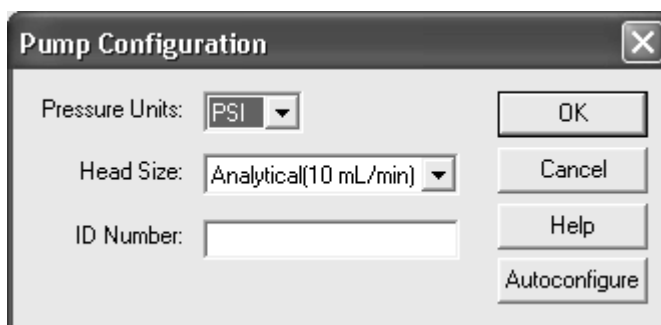

Figure 5-7. Pump Configuration dialog box
- f. Double-click on the TSP P4000 button in the Configured Devices group box. Xcalibur opens the Pump Configuration dialog box. See Figure 5-7.